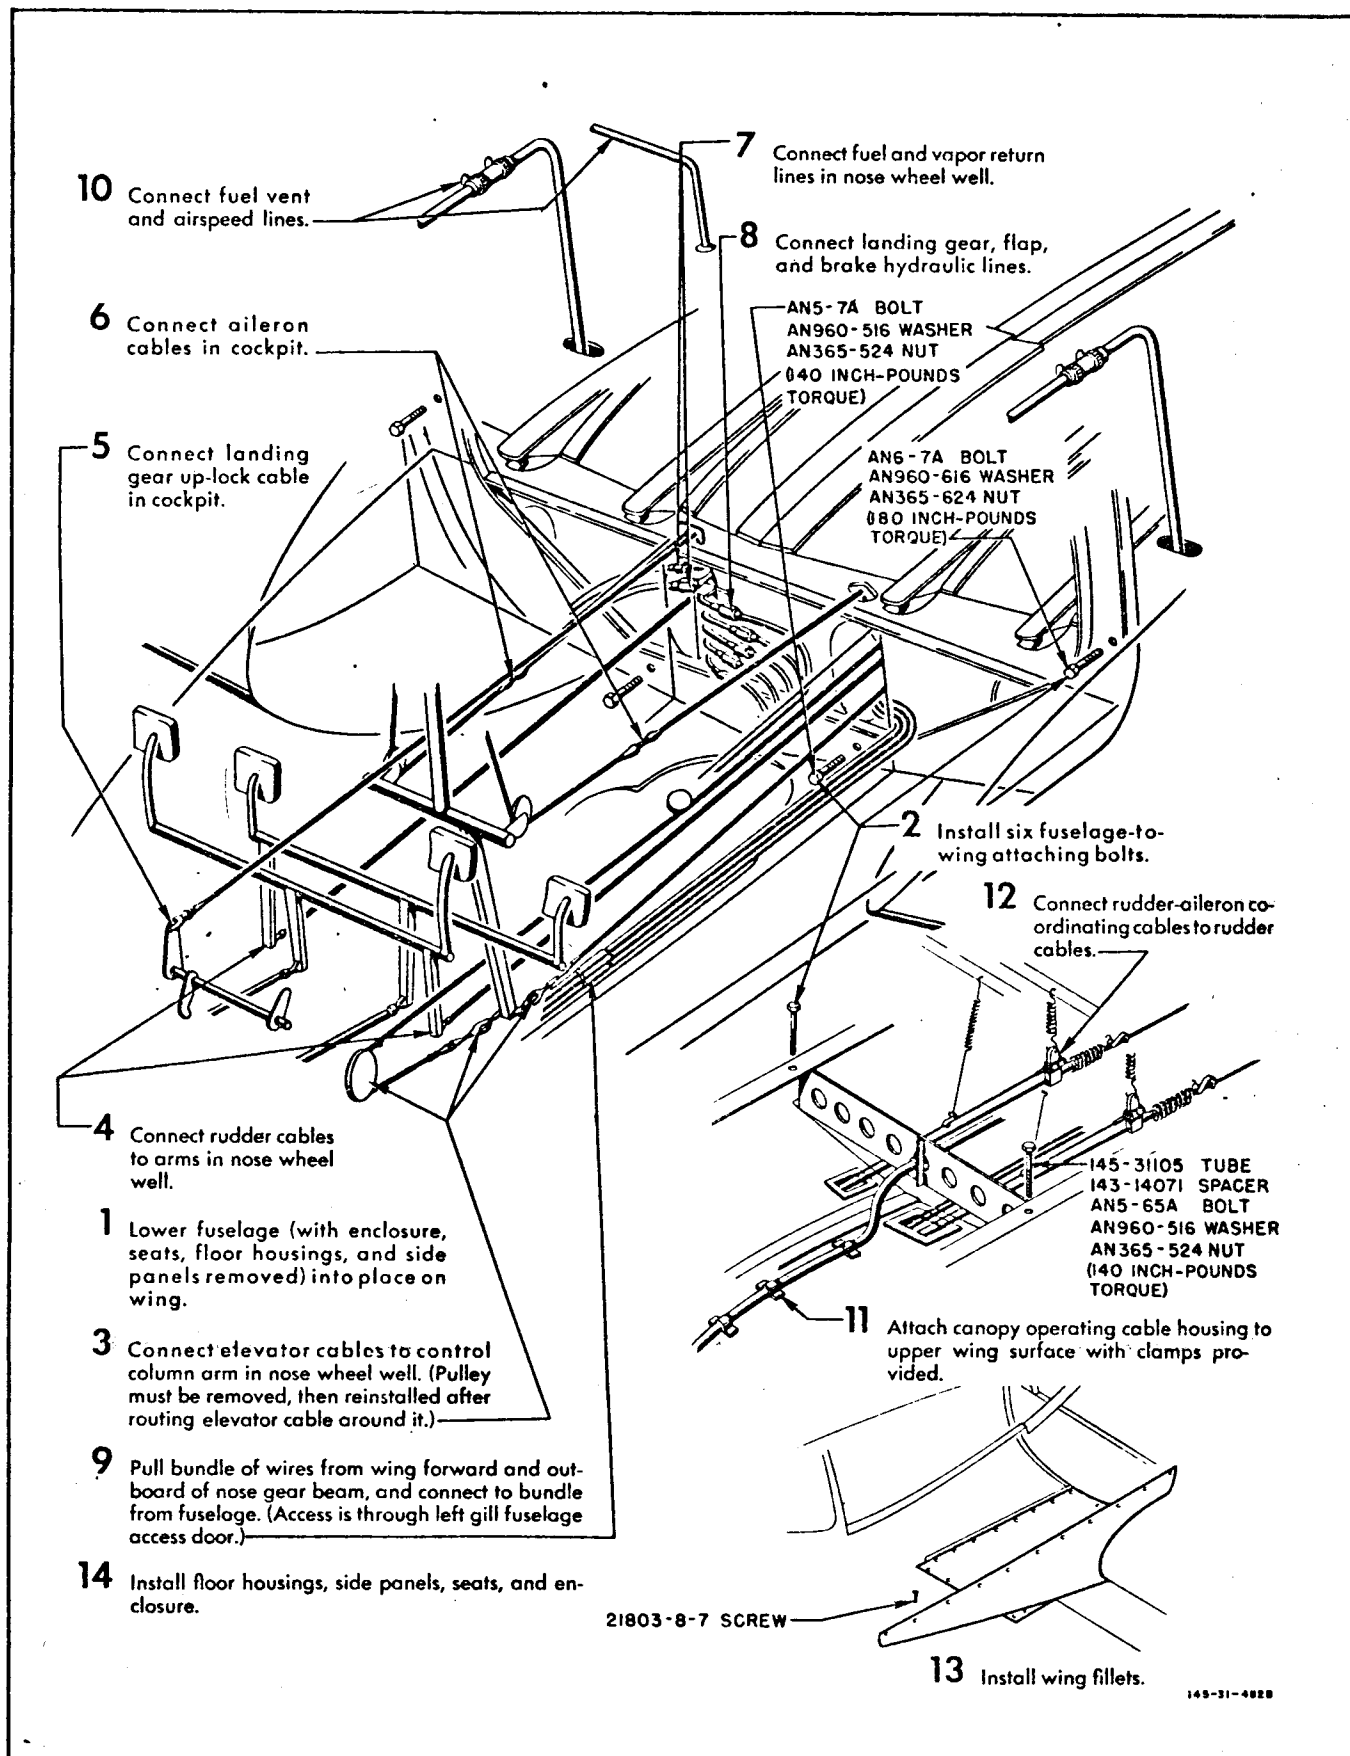

Figure 9 - FUSELAGE INSTALLATION
**Installing and Removing Fuselage—See figure 9.**